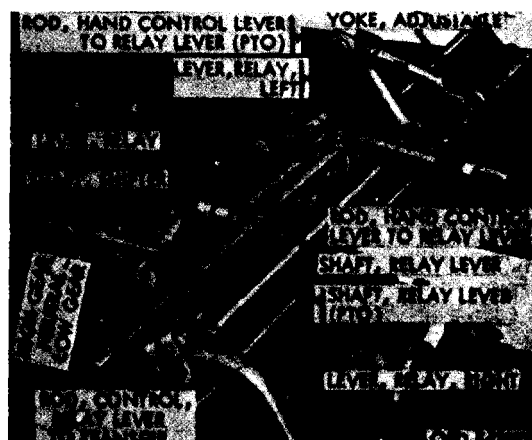

Figure 285. Power takeoff linkage
- (1) General. It is not necessary to disassemble shift lever or linkage unless inspection indicates shift lever, adjustable yoke, relay levers, or rod with welded yoke must be replaced. If replacement of any of these parts is necessary, disassembly is as follows.
- (2) Remove floor tunnel in cab. Refer to TM 9-2320-211-20.
- (3) Control lever. The control lever is pivoted in a bracket directly below the cab floor. Remove the cab floor tunnel to obtain access to the hand lever and disconnect from linkage. Remove cotter pin from clevis pin connecting control rod to hand control lever. Take out clevis pin and let control rod suspend from left relay lever (fig. 285). Remove cotter pin and flat washer from clevis pin holding control lever to bracket. Slide control lever off of clevis pin and remove from inside of cab.
- (4) Linkage (fig. 285). Remove cotter pine from clevis pine connecting hand control lever to relay lever rod at left relay lever, and rod assembly connected to right relay lever. Remove clevis pine and rods. Loosen safety nut on right and left relay levers. Remove relay levers, keys, and shaft. Tap clevis pin from rod assembly at shifting arm and remove rod assembly.
- (1) Linkage. Install relay lever shaft (fig. 285) in support and install Woodruff
key in shaft at each end. Install right and left relay levers and tighten safety nuts to secure relay levers on shaft. Position hand control lever to relay lever rod and install clevis pin at left relay lever. Install cotter pin in clevis pin. Position rod assembly at right relay lever and install clevis pin. Install cotter pin in clevis pin. Position rod assembly to shifting arm (fig. 285) and insert clevis pin and cotter pin.